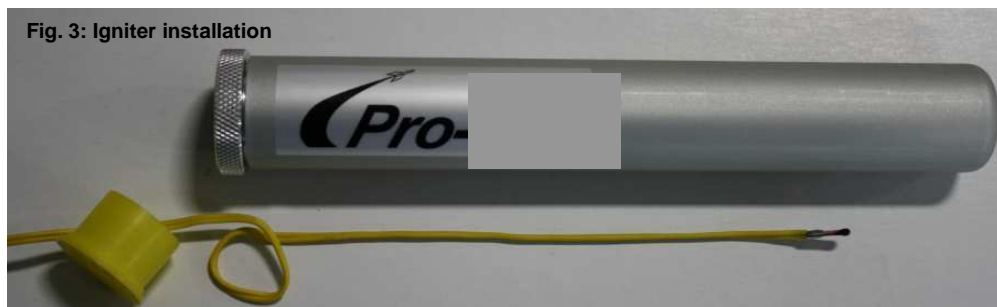

Fig. 3: Igniter installation
- Insert the igniter head into the nozzle and push until it stops against the igniter pellet. With the igniter in this position, bend a loop into the igniter leads one cap length from the nozzle exit (Figure 3 – igniter shown outside motor for indication of approximate location of the igniter pellet).